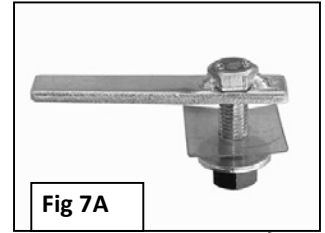
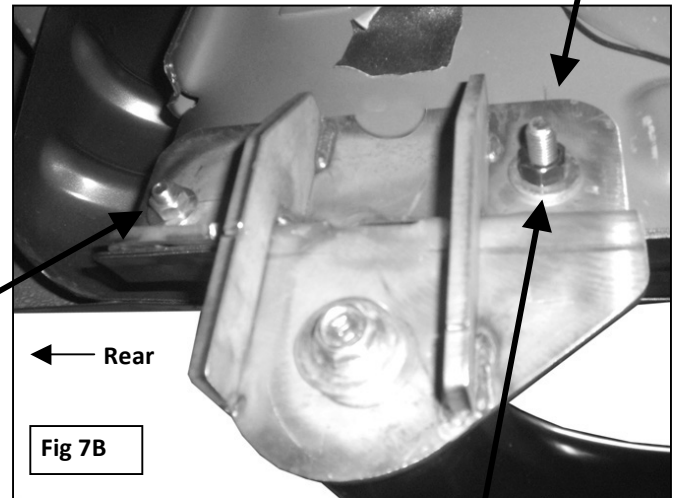

Fig 7A
Fig 7B
7. Move toward the rear of the vehicle and remove the tape covering the holes on the inner body panel. Select (1) 12mm Bolt Plate and thread (1) 12mm Plastic Retainer part way onto it, **(Figure 7A)**. Insert the Bolt Plate and Retainer into the rear mounting hole, **(Figure 7B)**, as described in **Step 4**.
8. Hang the driver side Rear Mounting Bracket from the Bolt Plate and secure it with the included (1) 12mm Lock Washer, (1) 12mm Flat Washer, and (1) 12mm Hex Nut, **(Figure 7B)**. Insert (1) 10mm x 35mm Hex Bolt, (1) 10mm x 30mm OD Large Flat Washer with (1) 10mm Plastic Retainer into the hole at the rear of the Mounting Bracket from the outside-in, **(Figures 8A & 8B)**. **NOTE:** The Plastic Retainer is intended to protect the outer painted surface of the body. Thread the Plastic Retainer onto the Hex Bolt so that it is between the 10mm Large Flat Washer and the body. Secure the Bracket with (1) 10mm Lock Washer, (1) 10mm x 30mm Large Flat Washer and (1) 10mm Hex Nut. Do not tighten hardware at this time.